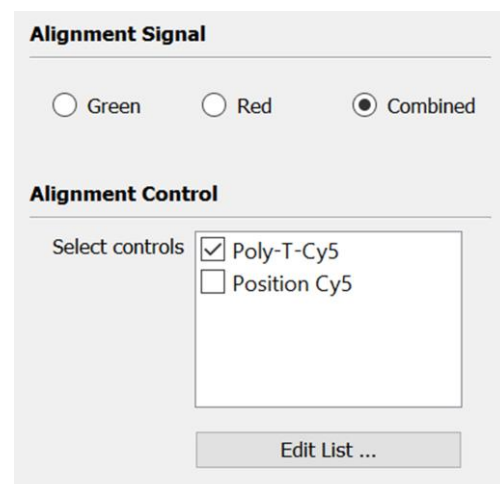

Figure 10: Alignment Options - Signal & Controls.
The automatic function may not align the grids with the image precisely in the first place. One reason is that the slide image is somewhat rotated when scanning. Consider the first column of an array, a small rotation of 0.25° of the slide image would result in different horizontal position of spots in the first rows and those in the last rows. It could also be due to the spotting process that the blocks' position inconsistently deviates from their expected horizontal and vertical coordinate. You can fine-tune the alignment function to handle these cases by clicking the *Configurations > Array Alignment Options* menu. The setting dialog, whose first part is shown in Figure 10 and the second part in Figure 11, is then activated.
This setting (Figure 10, the *Alignment Signal* section) is useful when analyzing dual-color images. It enables to specifically set from which channel (Red and/or Green) the signal is used for array alignment. The default option is *Combined*; the software takes the strongest signal among two channels for aligning the array.
- To employ one or more controls for the alignment, check the box next to them. In the example in Figure 10, the control *Poly-T-Cy5* is selected as an alignment control.